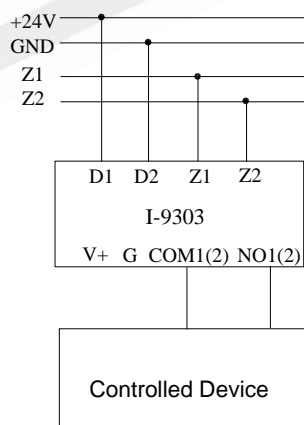

Fig.4
- The connection as a volt-free output contact is shown in Fig. 4.